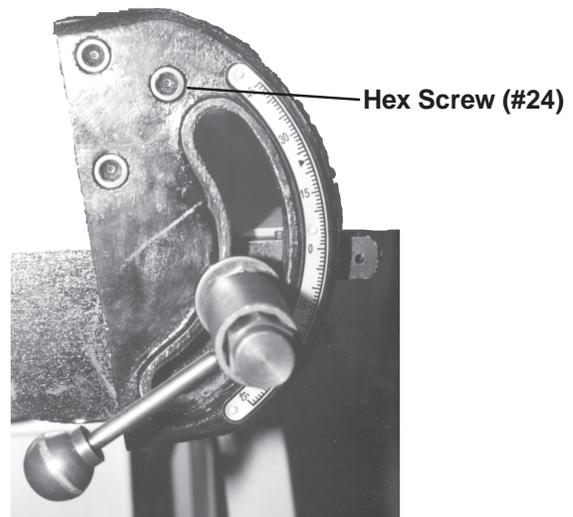

Figure 6
Step 3) Using an Allen Wrench, attach this assembly to the Fence (#11) with the three Hex Screws (#24)-see Figure 6.
Step 2) To tilt the Fence (#11), loosen the Handle Pole (#29). Slide the Socket (#30) over the Cap (#31). Loosen the Cap and tilt the Fence to the desired position. Tighten the Cap (#31) into place and tighten back down the Handle Pole (#29)-see Figure 6.